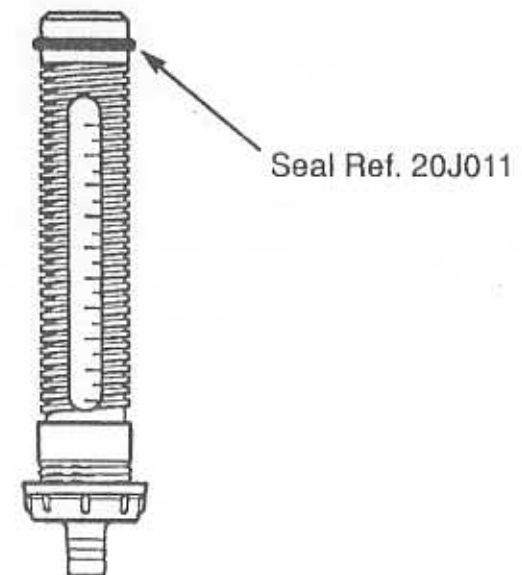

FIG. 12
- I°) When using soluble products to be made up into solutions, it is recommended to periodically dismantle the entire injecting portion, copiously rinse it with water and re-assemble it after having previously lubricated the seal Ref. 20J011 Fig. 12 with a silicone lubricant.